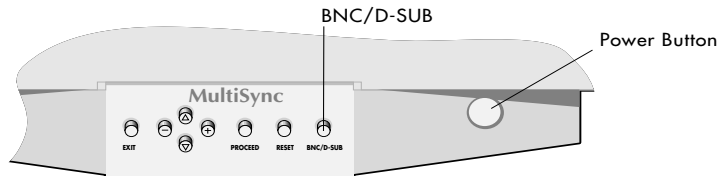

Figure E.1
5. Turn on the monitor (Figure E.1) and the computer.
6. The Factory Setting for your monitor is set for D-SUB installation. If you are using a BNC cable connection, push the BNC/D-SUB button on the front of the monitor (Figure E.1) to switch settings.